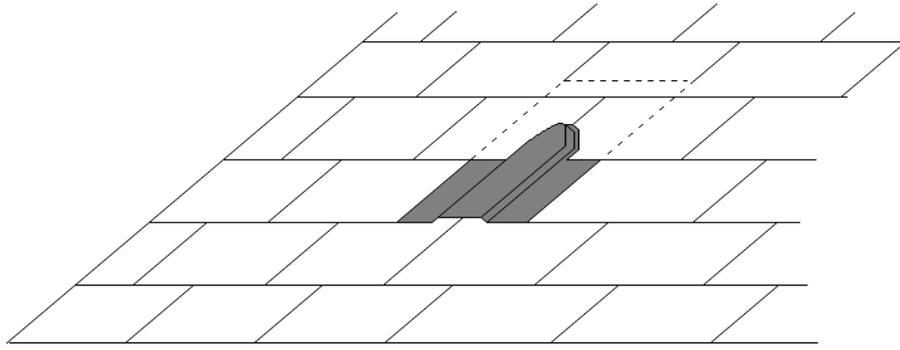

Fig 9. Batslates can be fitted in the middle of a slate roof but more lead and considerably more labour is involved.
- On a slate roof the Batslate can be fitted under the ridge tiles - **Fig. 7**. The ridge tiles can be adapted or cut away allowing for a lower ridge tile line. For example, when secret or back-bedded mortar is specified - **Fig. 8**. The Batslate can also be adapted to be fitted in the middle of a slate roof but more lead is required and a great deal more labour. Also, on a steep roof, rough material may have to be applied to the surface of the slates to enable the bats to grip - **Figs 9 to 12**.